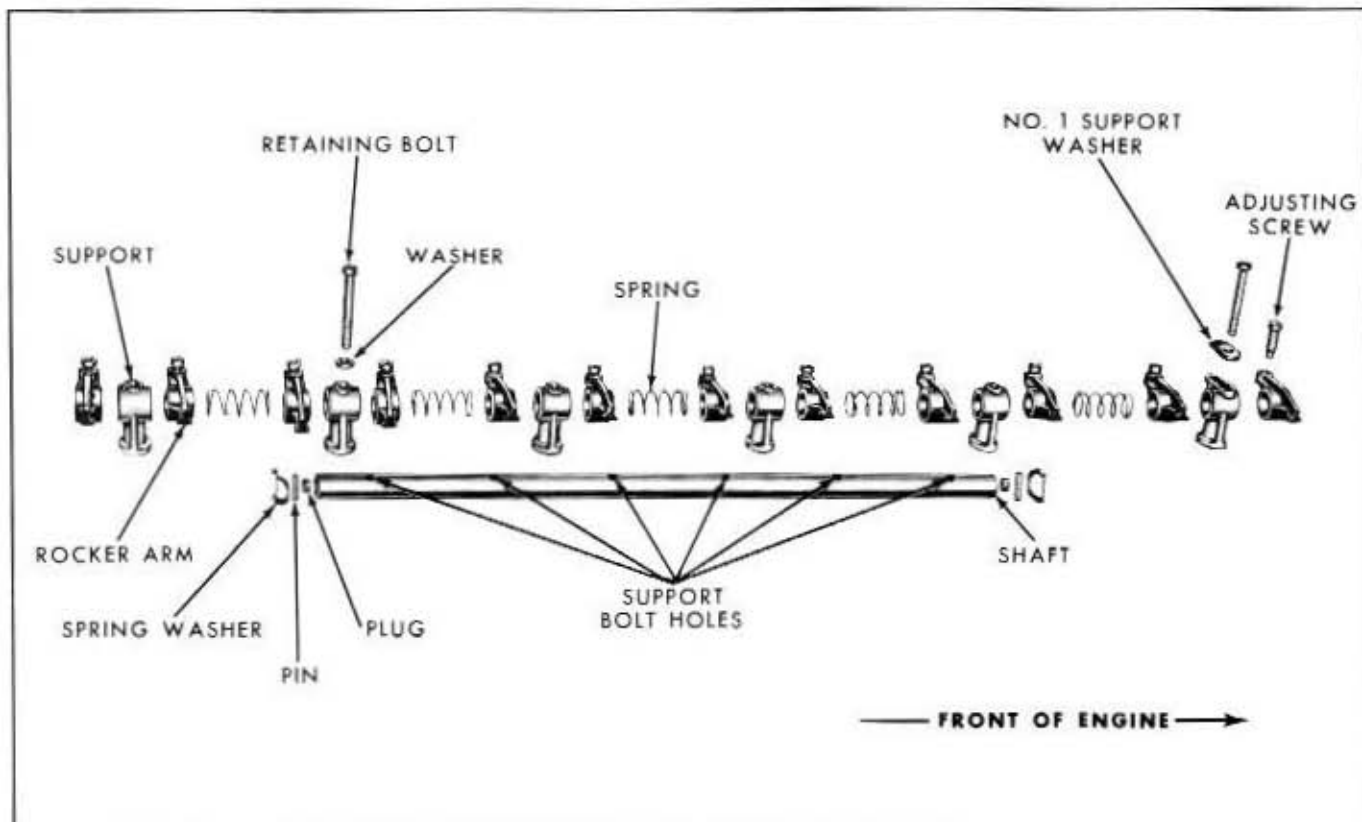

Fig. 6A-15—Valve Rocker Arm Shaft Assembly—(60C-5615)
7. Loosen all valve rocker arm adjusting screws to remove the valve spring load from the rocker arms. Remove the valve rocker arm shaft assembly. See figure 6A-14.